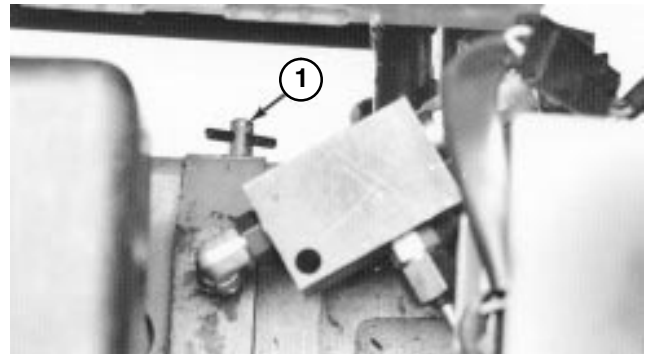

Figure 35
1. Reach under traction unit and rotate by-pass valve (Fig. 35) 1/2 to 1 turn counterclockwise. Opening the valve opens an internal passage in the transmission, thereby by-passing transmission oil. Because fluid is by-passed, traction unit can be moved without damaging the transmission.